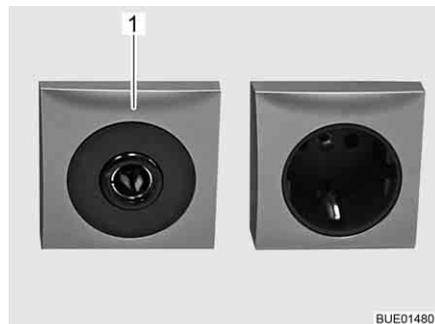

Fig. 95 12 V/10 A socket
- ▷ Only connect devices with a maximum of 10 A to the sockets (Fig. 95,1) of the 12 V power supply.